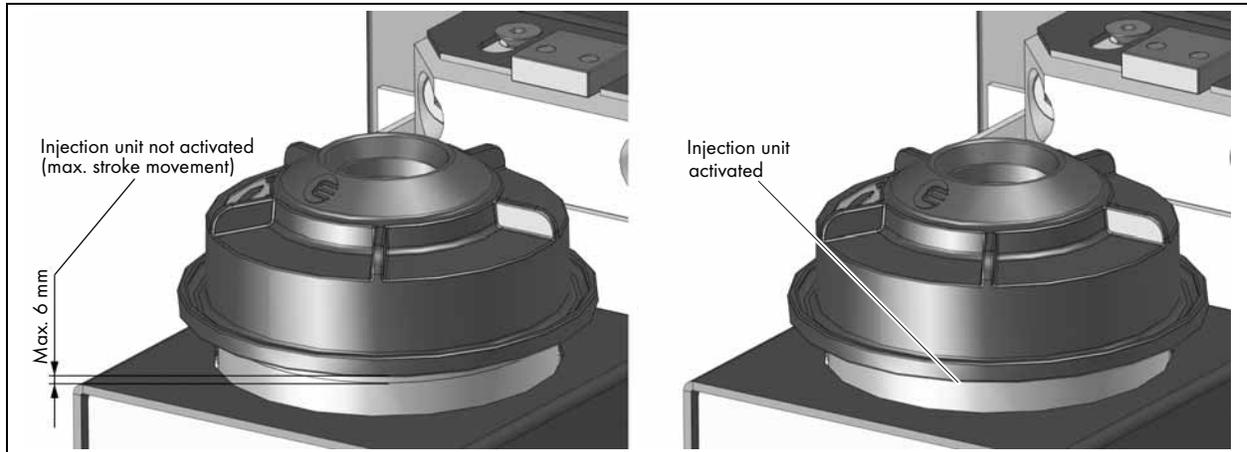

Fig. 13 Injection unit stroke movement
- Note the max. stroke of the injection unit (see Fig. 13 Injection unit stroke movement on page EN-21)